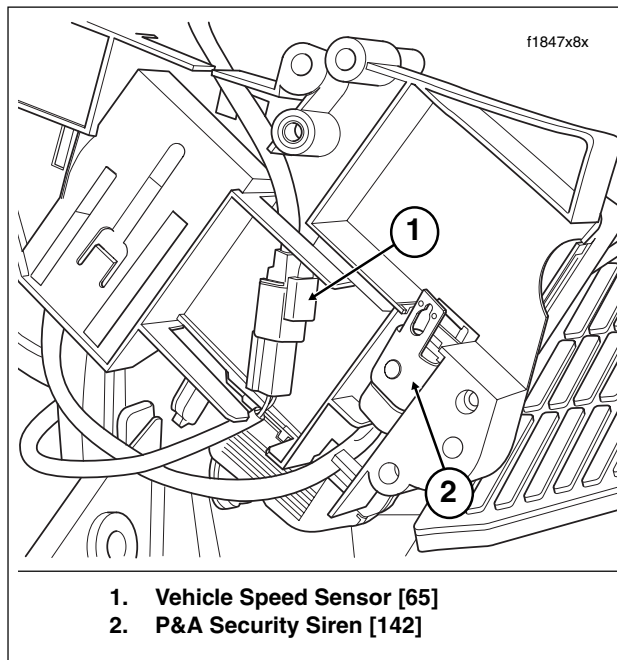

Figure 8-182. Electrical Bracket (Inboard Side)
12. On inboard side of electrical bracket, disconnect vehicle speed sensor connector [65]. Depress button on socket housing and pull apart pin and socket halves. See Figure 8-182.
7. Returning to electrical bracket, mate pin and socket halves of vehicle speed sensor connector [65]. Route siren and vehicle speed sensor connectors and conduit on inboard side of electrical bracket as shown in Figure 8-182.